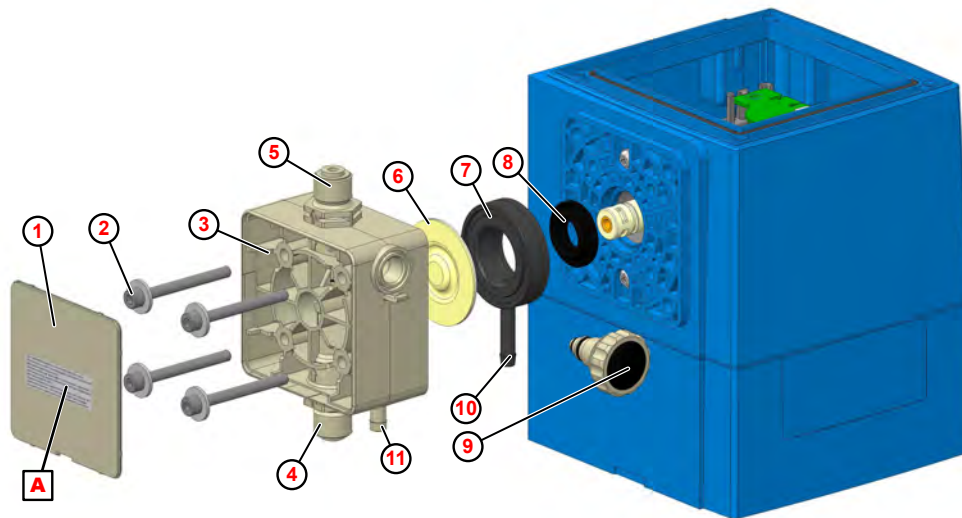

Fig. 103: Replacing the pump head, diaphragm and protective diaphragm
1. ➤ Unscrew the suction and pressure valve (Fig. 103 , ④ and ⑤).
2. ➤ Remove the venting screw ⑨ (only if changing the pump head).
3. ➤ Remove the cover plate ① on the metering head.
4. ➤ Loosen the pump head screws ② and remove.
5. ➤ Remove the pump head ③ .
6. ➤ Unscrew and remove the diaphragm ⑥ .
7. ➤ Take out the intermediate plate ⑦ .
8. ➤ Remove the protective diaphragm from the plunger ⑧ .
10. ➤ Place the intermediate plate so the venting outlet ⑩ is pointing downwards.